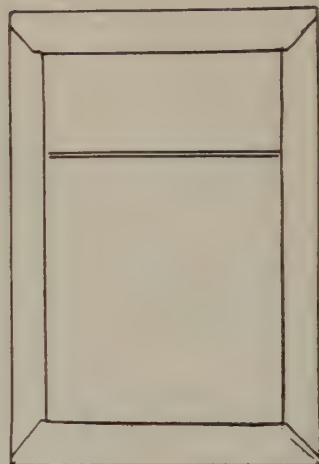

FIG. 75—EASEL COVERED
8. Turn-in the four edges as you did before, being careful to do the two long edges first. Nick the corners and complete the turning-in. (Fig. 75.)